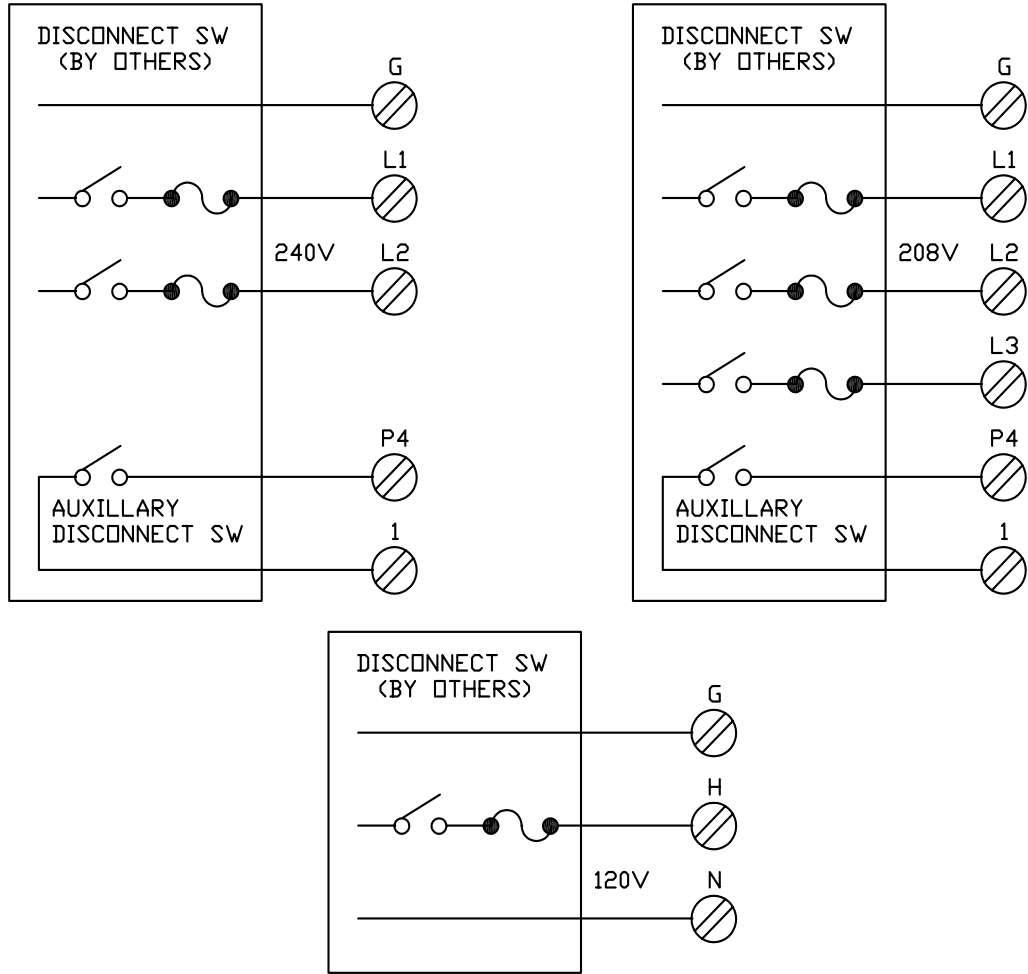

Figure 103
- 3) Connect the Main Power to the terminal blocks in the Controller box as shown in Figure 103.